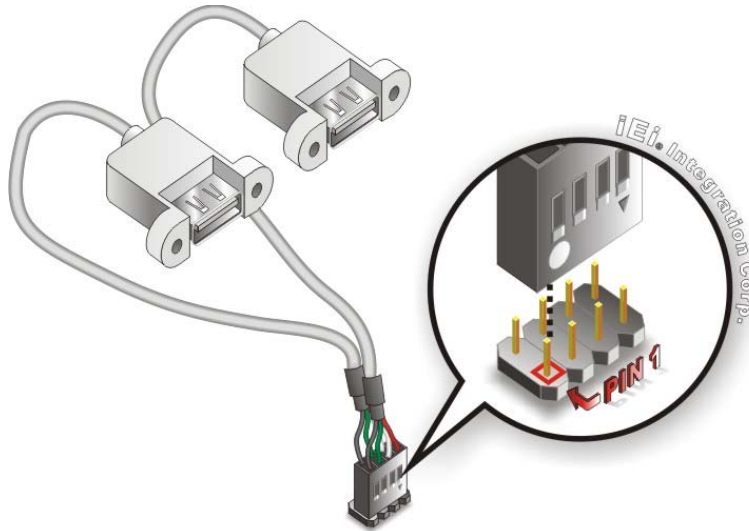

Figure 4-25: Dual-port USB Cable Connection
Step 3: Insert the cable connectors. Once the cable connector is properly aligned with the USB connector on the WAFER-ULT/ULT2-i1, connect the cable connector to the on-board connector. See **Figure 4-25**.